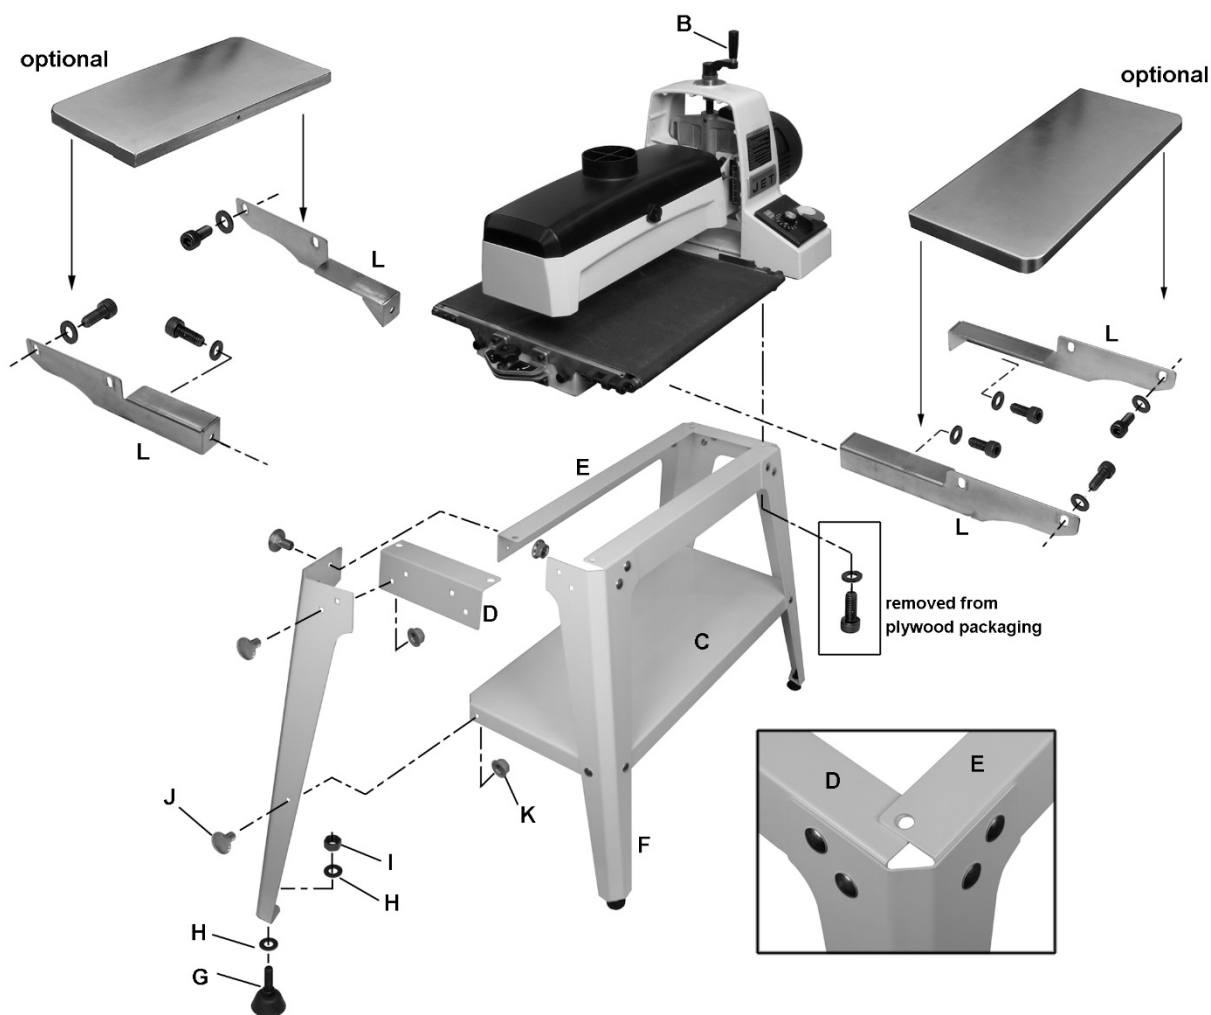

Figure 6-3: Assembly
(Refer to Figure 6-3. If further clarification is needed, consult parts breakdown at back of this manual.
NOTE: Flange of Long Rail overlaps flange of Short Rail. See inset, Figure 6-3.
1. Install infeed and outfeed brackets (L, Figure 6-3) to the threaded holes in sander base with M8x16 socket head cap screws and flat washers. Make sure left and right brackets are oriented as shown. The brackets should be flush against the base. NOTE: Long brackets mount to front (infeed); short brackets to rear (outfeed).